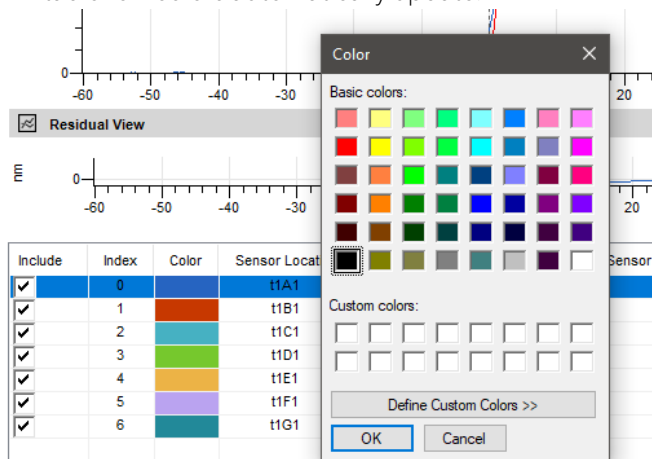

Figure 5-48: Set Color
- **Set Color** - Opens the color palette so you can change the color for the table row(s) currently selected (Figure 5-48). Select a color from the palette or define a custom color then click **OK**. The binding curve and table row colors automatically update.